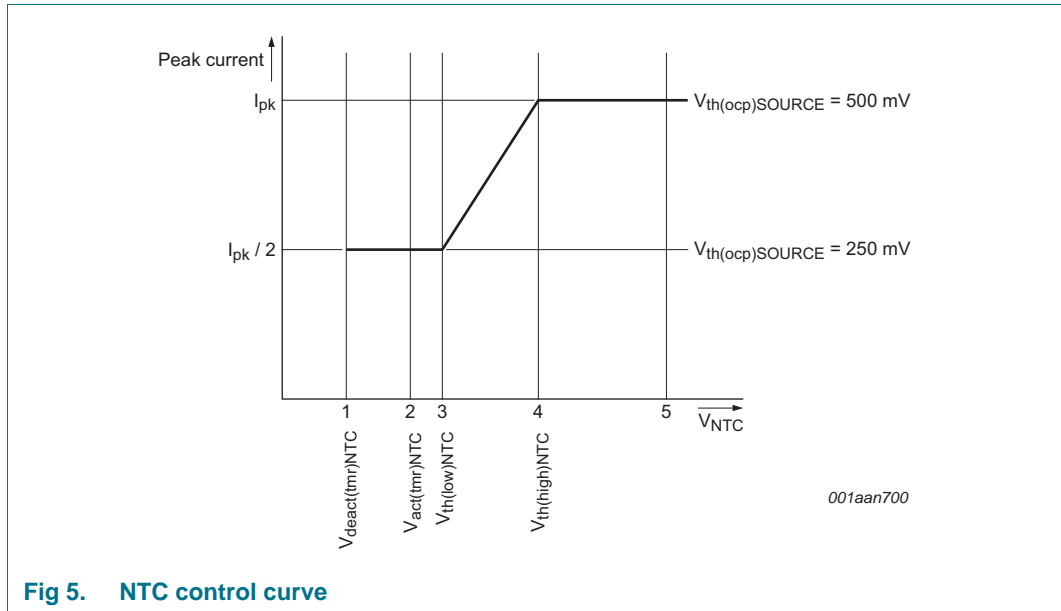

Fig 5. NTC control curve
The NTC pin can be used as a control method for LED thermal protection. Alternatively, the pin can be used as an input to disable/enable light output using a digital signal (PWM dimming). The pin has an internal current source that generates the current of $I_{offset(NTC)}$. An NTC resistor to monitor the LED temperature can be directly connected to the NTC pin. Depending on the resistance value and the corresponding voltage on the NTC pin, the converter reacts as shown in Figure 5.
When the voltage on the NTC pin is higher than $V_{th(high)NTC}$ see Figure 5 (4), the converter delivers nominal output current. When the voltage is lower than this level, the peak current is gradually reduced until $V_{th(low)NTC}$ is reached, see Figure 5 (3). The peak current is now half the peak current of nominal operation. When $V_{act(tmr)NTC}$ is passed, see Figure 5 (2) a timer starts to run to distinguish between the following situations:
- If the low-level $V_{deact(tmr)NTC}$ is not reached within time $t_{to(deact)NTC}$, Figure 5 (1) LED overtemperature is detected. The IC stops switching and attempts to restart from the HV pin voltage. Restart takes place when the voltage on NTC pin is higher than $V_{th(high)NTC}$, see Figure 5 (4). It is assumed that the reduction in peak current did not result in a lower NTC temperature and LED OTP is activated.
- If the low-level $V_{deact(tmr)NTC}$ is reached within the time $t_{to(deact)NTC}$, Figure 5 (1) it is assumed that the pin is pulled down externally. The restart function is not triggered. Instead, the output current is reduced to zero. PWM dimming can be implemented this way. The output current rises again when the voltage is higher than $V_{deact(tmr)NTC}$.
The NTC pin can be used to make a soft start function. During switch-on, the level on the NTC pin is low. By connecting a capacitor (in parallel with the NTC resistor), a time constant can be defined. The time constant causes the level on the NTC pin to increase slowly. When passing level $V_{th(low)NTC}$ Figure 5 (3), the convertor starts with half of the maximum current. The output current slowly increases to maximum when $V_{th(high)NTC}$ Figure 5 (4) is reached.